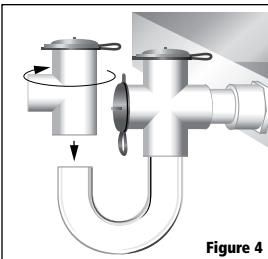

Figure 4
4. Rotate outlet Tee in required direction and glue onto other end of U-Bend so that Red Cap faces up (**Figure 4**).